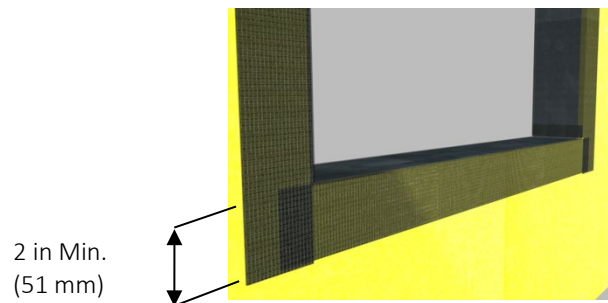

Fig. 3
- 4) Install the AquaFlash System at the jambs in the same manner overlapping onto the sill material a minimum of 2 in (51 mm) - Figure 3..